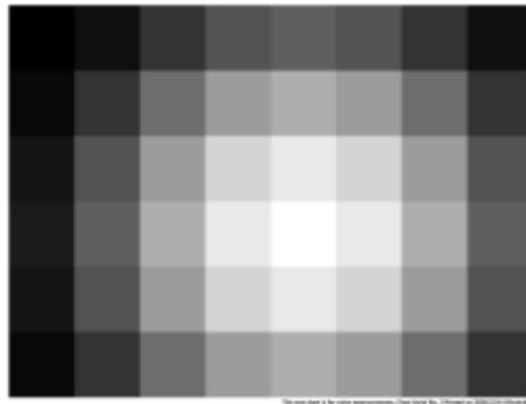

Figure 4-6-1-1
2. A grayscale gradient card must be used, as shown in Figure 4-6-1-1.
7. Low-light image requirements: the pixel value of the brightest block in Figure 4-6-1-1 reaches 30 (to ensure that the boundary of each color block can be seen clearly, if it is not satisfied, it can be appropriately increased), and the pixel value of the darkest block reaches Black-Level (it can be satisfied when the pixel value of the brightest block just reaches 30).
8. Highlight image requirements: the pixel value of the brightest block in Figure 4-6-1-1 reaches 255, and the pixel value of the darkest block is generally around 60-70.